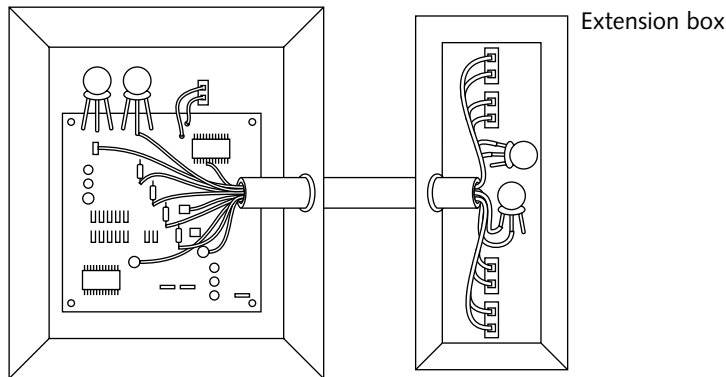

FIGURE 11-6: Insert the cable's other end into the extension box and solder wires to extra components.
8. Similarly, pass the other end of the cable into the extension box. Secure as before, and watching closely the wire color codes, solder the wires to the extension box components just as you would if the switches and so on were mounted on the original case itself (see Figure 11-6).